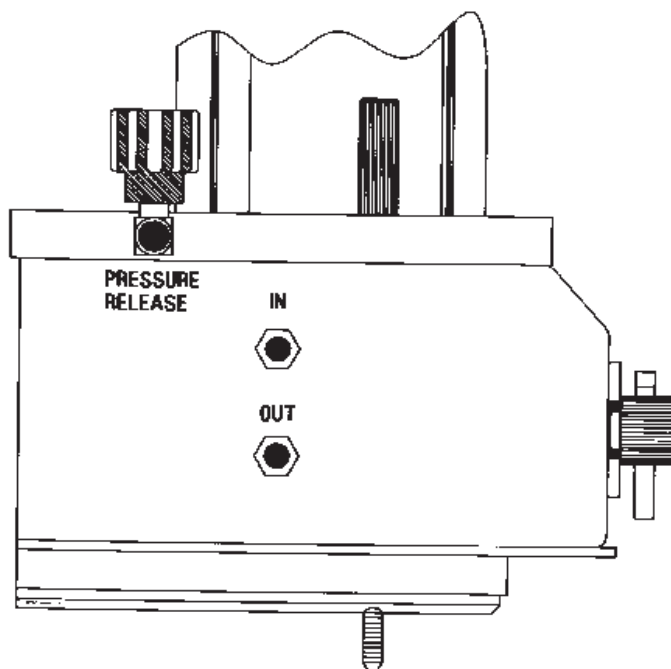

Figure PDSC.4
3. Connect a sufficient length of 0.32-mm (0.125-inch) tubing from a pressure regulator on your pressurized gas source to the IN port on the side of the PDSC Cell (see Figure PDSC.4). The gas (nitrogen, air, oxygen, etc.) should be pressure-regulated up to 7 MPa (1000 psi).